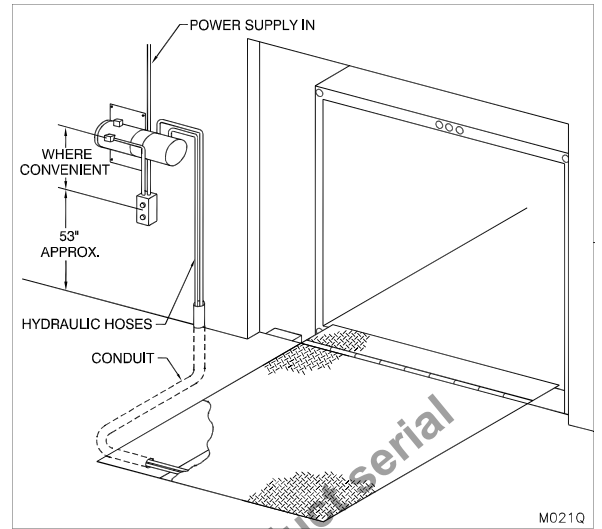

Figure 49: Power Unit and Push Button Location
3.      Mount push button in appropriate location. (See “Figure 49: Power Unit and Push Button Location” on page 38)
1.      Mount both push button and power unit on wall. (See “Figure 49: Power Unit and Push Button Location” on page 38) Mount the power unit horizontally with reservoir breather facing up.